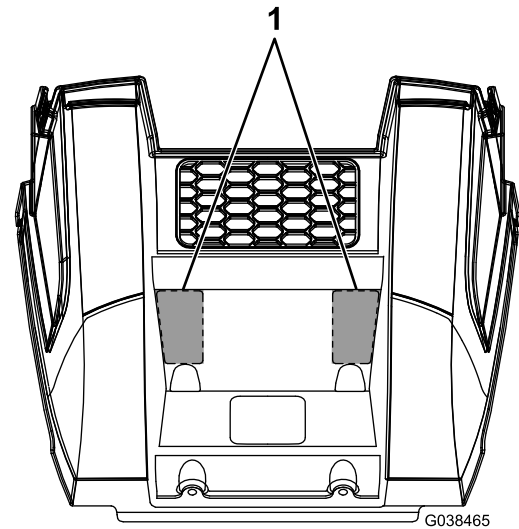

Figure 8
- Using the long brackets as a guide, mark and cut out 2 squares on the lower bumper housing, as shown in Figure 8.